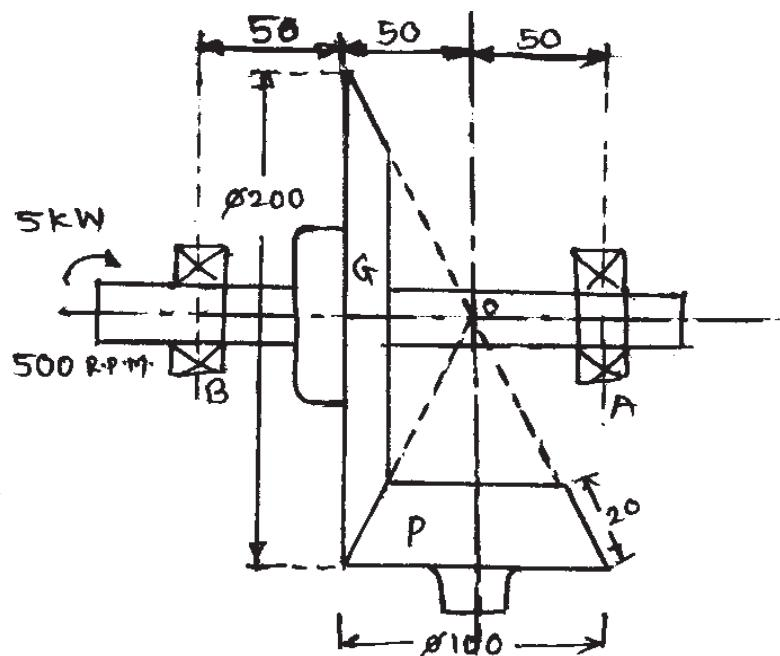

Figure No.2
- Q11)** a) The dimensions of pair of bevel gears are given in Figure No.2. The Gear G delivers 5 kW power at 500 r.p.m. to the output shaft. The bearings A and B are mounted on the output shaft in such a way that the bearing B can take radial as well as entire thrust load., while bearing A can take only radial load. Determine reactions at the two bearings. [Assume $\alpha = 20^\circ$] [12]